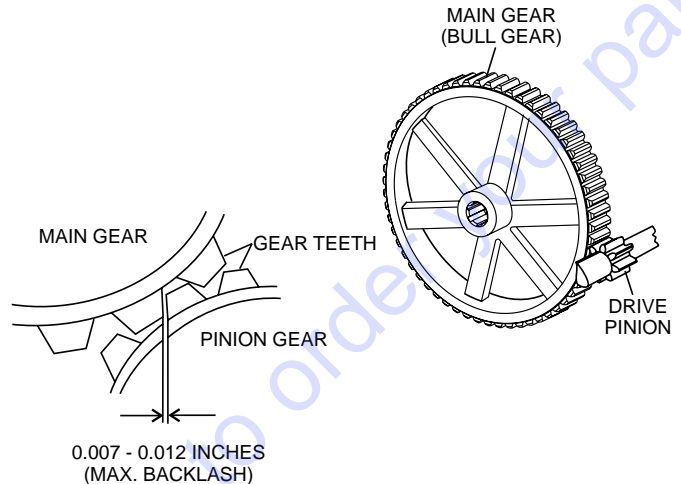

Figure 43. Drive Pinion and Main Gear (Backlash)
3. Using your hand, slightly move (rock) the drive pulley back and forth to determine the amount of backlash. Insert feeler gauge between gears to determine backlash distance. Backlash should range between 0.007- 0.012 inches (Figure 43).